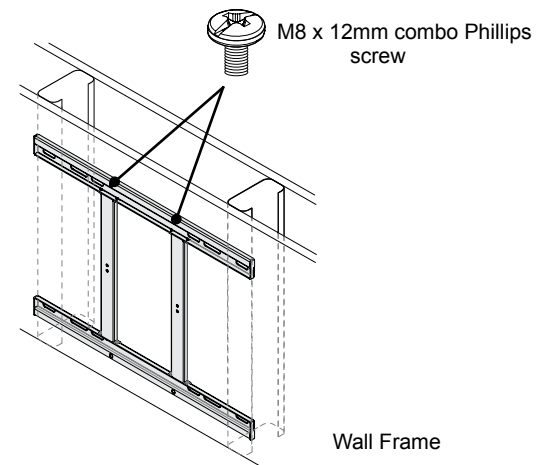

Fig. 1
- 1 Pre-install two (2) M8 x 12mm combo Phillips screws in the top screw holes of the wall frame (Fig.1) using at least 5 full turns.